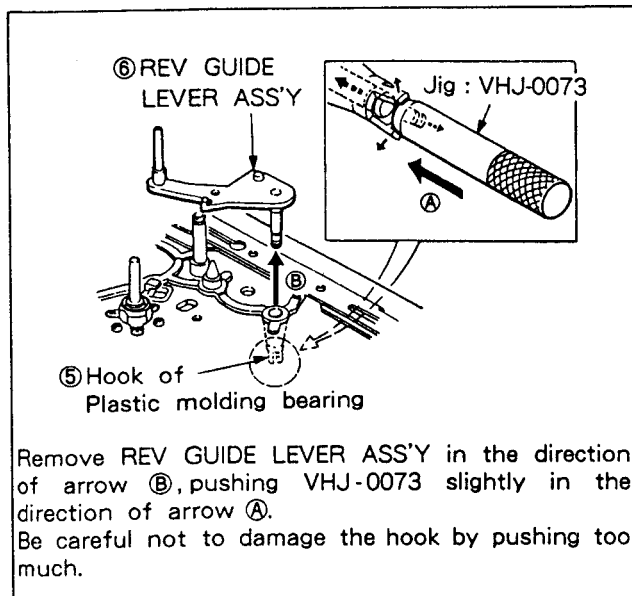

Fig. 4-6-2. Method of Using the Jig VHJ-0073
- 3) Remove the PINCH SPRING COIL ①.
- 4) Remove the special washer ②, then remove the PINCH LEVER ASS'Y ③.
- 5) Remove the REV GUIDE LEVER SPRING COIL ④.
- 6) Remove REV GUIDE LEVER ASS'Y ⑥ from the hook ⑤ of the plastic bearing on the bottom side. Use a jig VHJ-0073 shown in Fig. 4-6-2 to widen the hook of the plastic bearing. By so doing, the above removal of the REV GUIDE LEVER ASS'Y ⑥ can be made more easily. Care should be taken to avoid pushing the jig VHJ-0073 too much. Pushing it too hard may damage the hook in an extreme case.
- 7) Remove the SLIDE BRAKE SPRING COIL ⑦.
- 8) Remove the special washer ⑧, then remove the PINCH CAM LEVER ASS'Y ⑨.
- 9) Remove the ACT PINCH SLIDE ASS'Y ⑩.